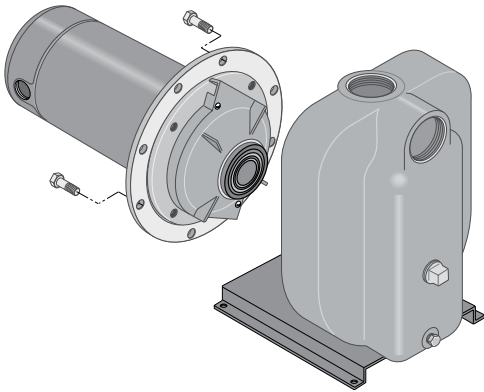

Figure 14 - Slide Motor Back
5. Remove capscrews holding seal plate to pump body. Motor assembly and seal plate can now be pulled away from pump body (Figure 14).